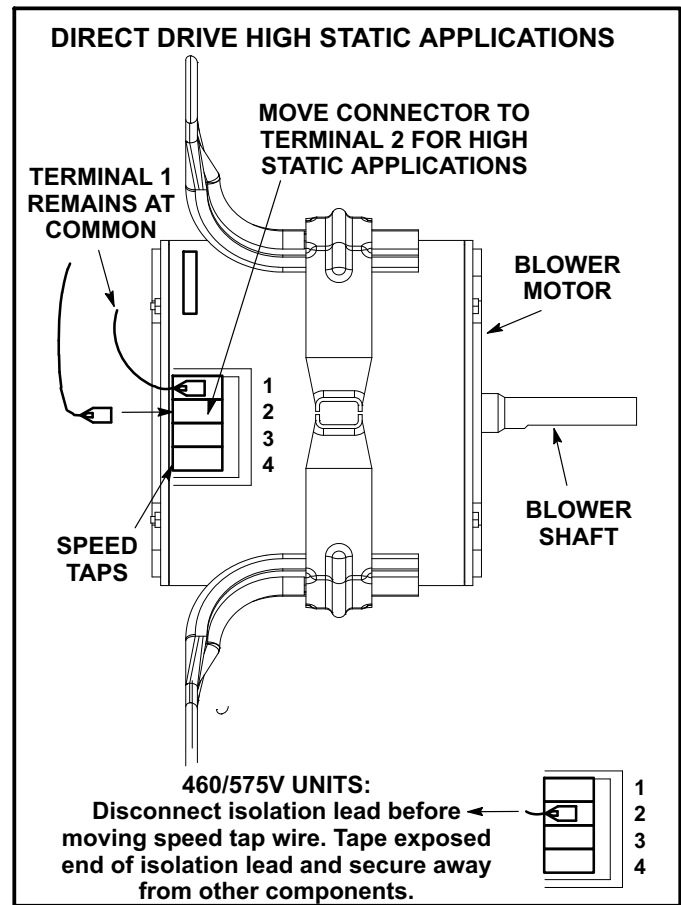

FIGURE 8
- 4- Use the blower tables (see table of contents), measured static pressure and the factory-set blower speed to determine CFM. If CFM is lower than the design specified CFM, move the lead from speed tap 3 or 4 to speed tap 2. See figure 8.
For 460/575V units, remove the isolation lead from speed tap 2 before moving the wire to speed tap 2. Tape the exposed end of the isolation lead and secure away from other components. See figure 8.